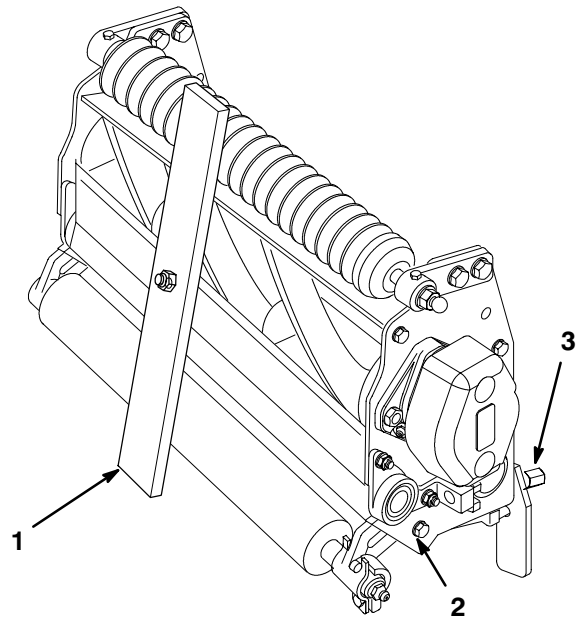

Figure 5
2. Turn the cutting unit over (90°) and rest it on the rear roller and top rear tabs. Loosen the locknuts on the bolts retaining the rear roller brackets (Fig. 5).
3. On the gauge bar (Part No. 13-8199), set the head of the screw to the desired height of cut (Fig. 5). This measurement is from the bar face to the underside of the screw head.
4. Place the bar across the front and rear rollers and adjust the height-of-cut knob (Fig. 5) until the underside of the screw head engages the bedknife cutting edge.